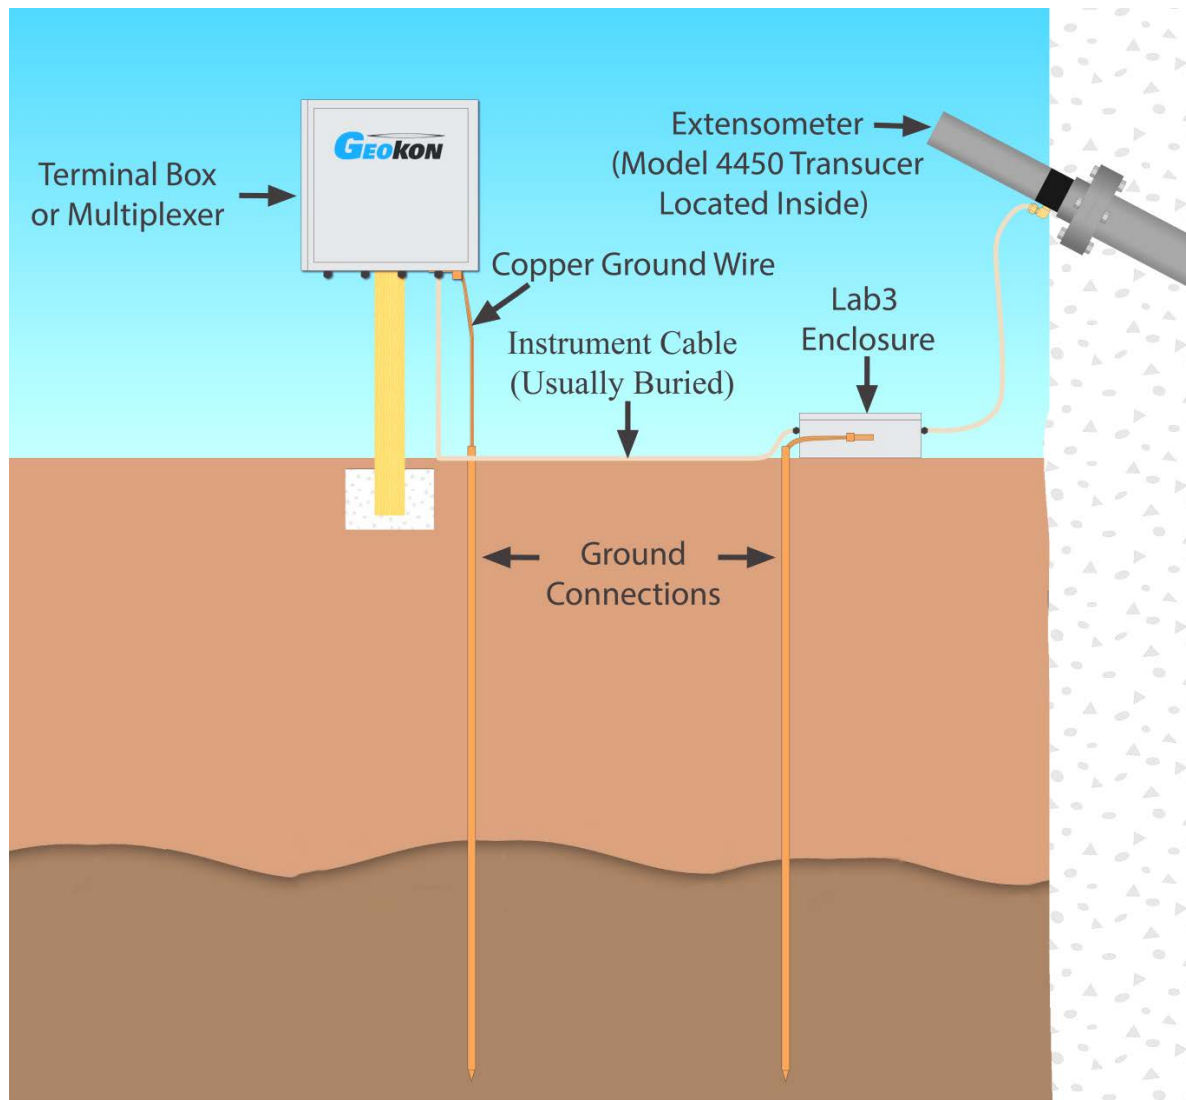

Figure 8 - Lightning Protection Scheme
- Lightning arrestor boards and enclosures are also available from Geokon. These units install where the instrument cable exits the structure being monitored. The enclosure has a removable top to allow the customer to service the components or replace the board in the event that the unit is damaged by a lightning strike. A connection is made between the enclosure and earth ground to facilitate the passing of transients away from the displacement transducer. See Figure 8.